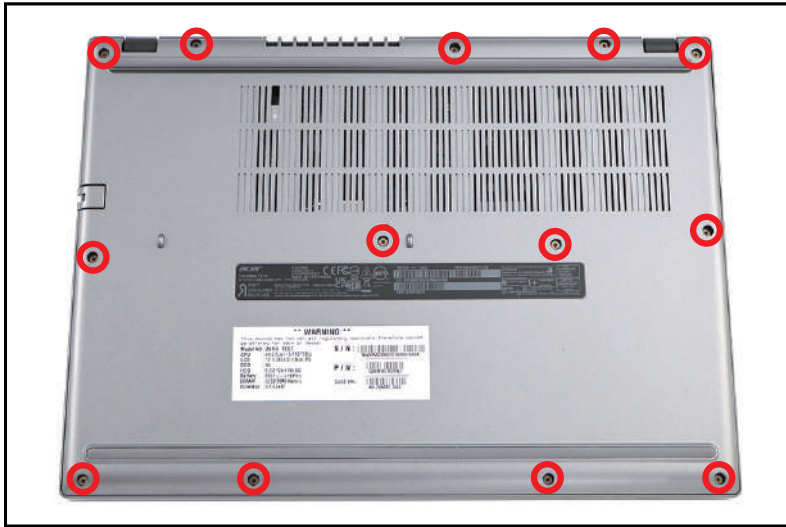

Figure 3-170. Replacing the Base Cover
3. Install thirteen (13) screws to secure the base cover (Figure 3-170).